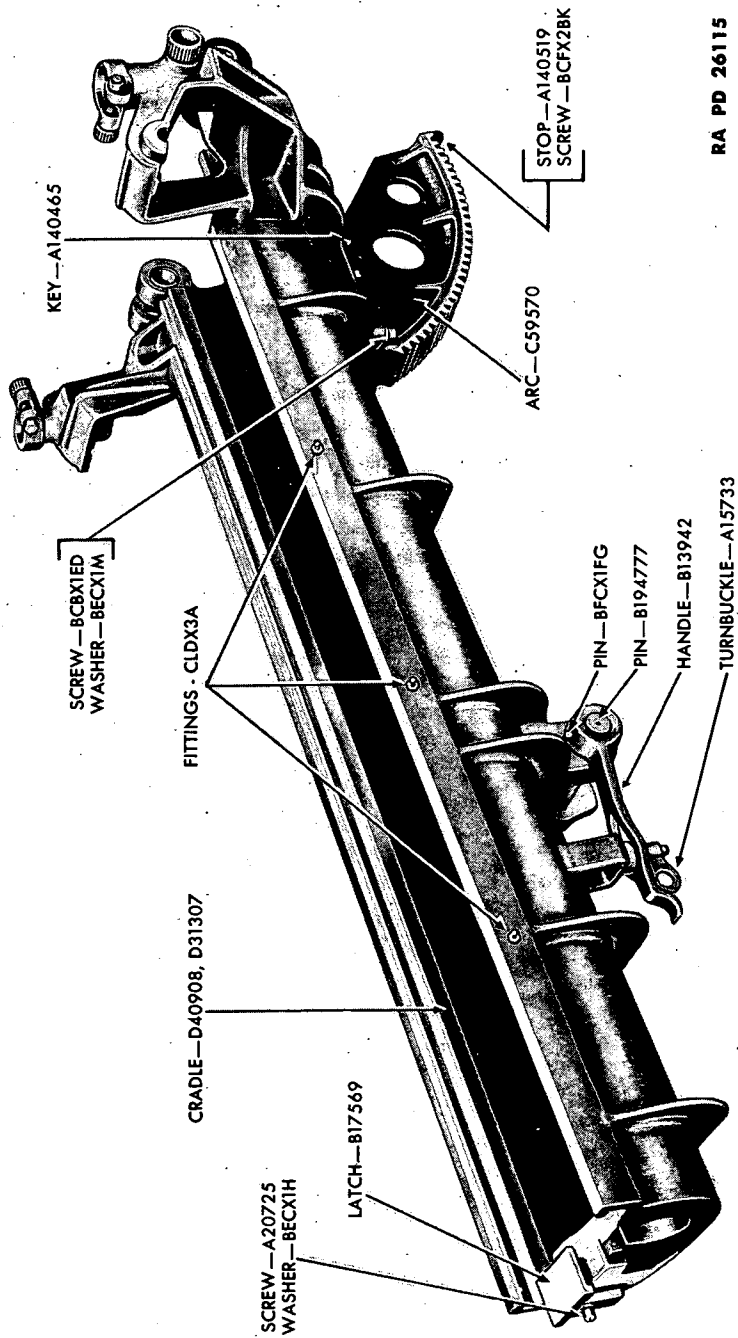

Figure 105—Cradle Assembly
a. Complete description of the cradle is contained in paragraphs 27 a and 33 b (fig. 105).
(1) REMOVAL OF CRADLE.